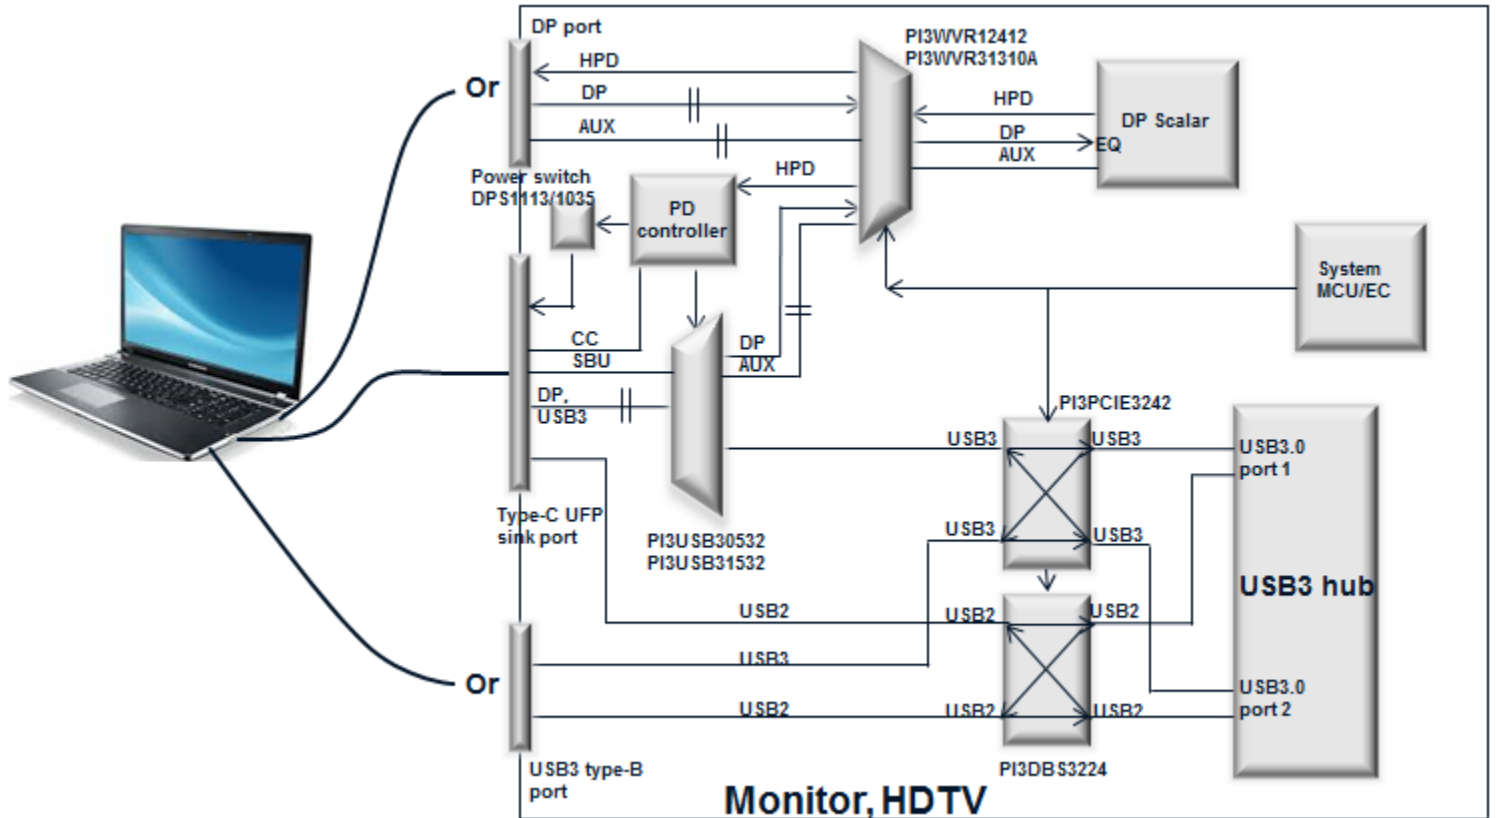

Figure 5, PI3USB30532, PI3USB31532 in monitor and HDTV
- The total 18db equalization in source and sink is sufficient to compensate the estimated total insertion loss from the topology in figure 5: